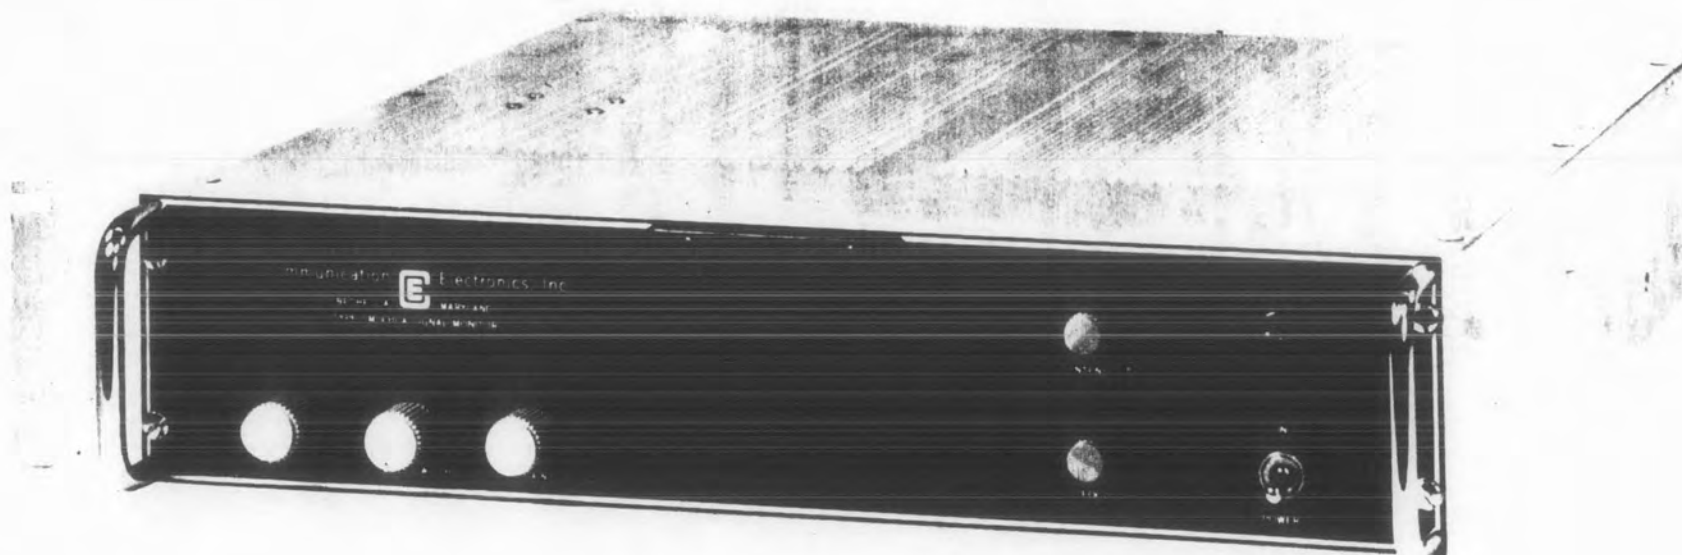

Figure 2-1. Type SM-9310A Signal Monitor
The front panel (see fig. 2-1) mounts the cathode-ray tube (CRT) screen; the CENTER FREQ. control; the SWEEP WIDTH control; the GAIN control; the INTENSITY control; the FOCUS control; and the POWER switch, with ON position marked.
A. Panel Controls. The panel controls (see fig. 2-1) should be used as follows:
(1) The POWER switch applies ac to the equipment and should be turned on several minutes prior to using the equipment in order to allow a thorough warm up.
(2) The GAIN control governs the height of the signal traces and should be set to give the trace sufficient height.
(3) The CENTER FREQ. control can be used to move the trace left or right a certain amount so that the center frequency of the bandwidth to which the receiver is tuned will correspond exactly to the center of the CRT screen. The best way to adjust it is to tune in a signal of known frequency, preferably one with a simple display such as a CW signal, and turn the CENTER FREQ. control until the center of the display falls exactly on the center marker of the screen. If the signal does not stay at the center marker for all positions of the SWEEP WIDTH control, the HORIZ POS control needs readjustment. (See Section V, Subsection 3, paragraph E.)
(4) The SWEEP WIDTH control governs the width of the frequency spectrum which is being viewed on the screen. When searching for signals it is best to leave it at maximum clockwise, which will give maximum width (3 megacycles). Then, as it is desired to narrow down the width to inspect certain signals more closely, this control may be adjusted as desired.
(5) The INTENSITY control should be set to give the trace the desired brightness.
(6) The FOCUS control should be set to give the trace maximum sharpness.